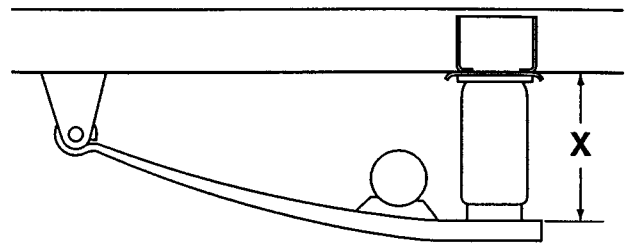

Fig.2 Checking ride height
11. Measure and record ride height 'X' on both sides of vehicle (see fig 2).